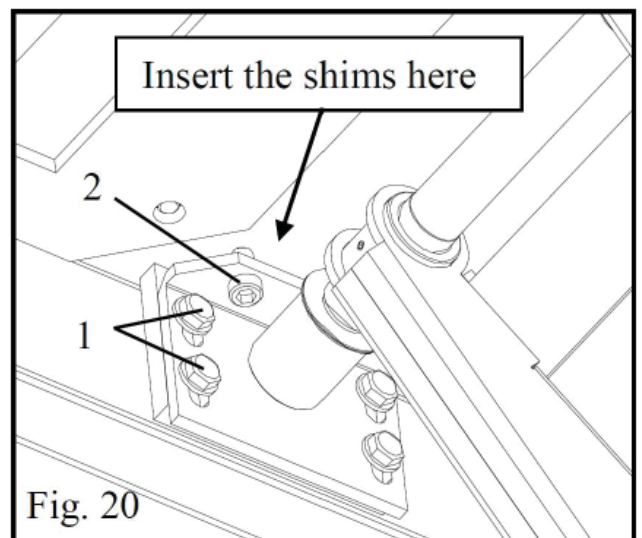

Fig. 20
- unscrew four screws (1/fig.20) on the bracket on front of scissor arm;
- Adjust two screws (2/fig.20) up or down until two platforms are leveled perfectly;
- Once the required conditions have been obtained, insert the shims on top of bracket as shown in the figure 20;